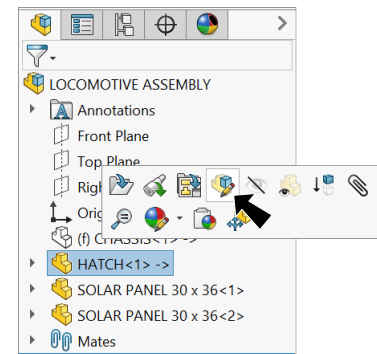

Fig. 26
Step 1. Click **Hatch**  component in the Feature Manager and click **Edit Part**  on the context toolbar, **Fig. 26**.